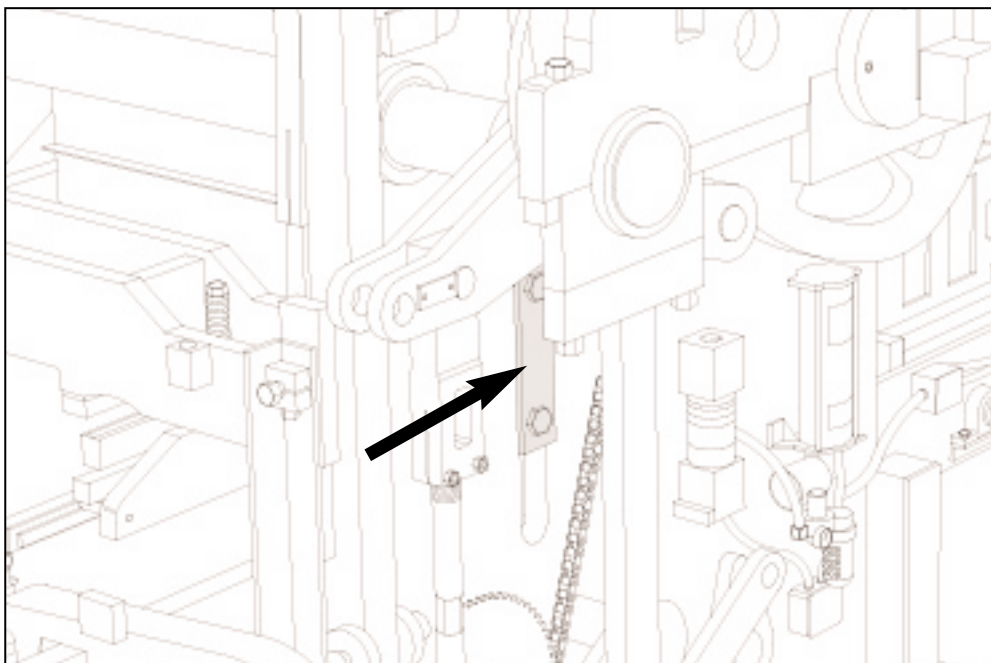

Figure 4.25 TIGHTEN "T" CLAMPS ON BOTH SIDES.
- f. Tighten "T" clamps on each side of machine that secure machine side plate to mold throat plate. See figure 4.25 below.